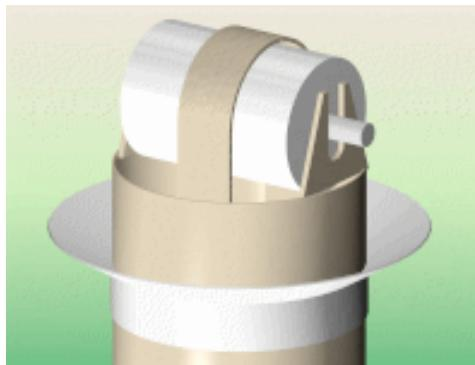
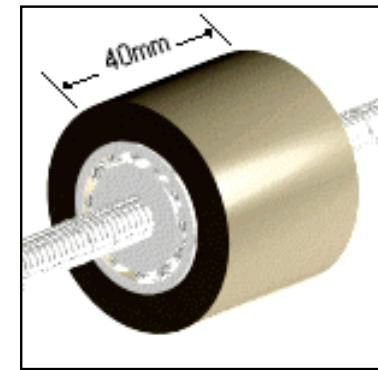

figure 13
figure 17
- **Simple direct shaft rollers,** (see figure 13 and 14)
If you chose the simple direct shaft rollers of figure 13 and 14 then you can make the rollers in a variety of ways. One way is to drill/lath a hole down the length of the nylon roller and push a longer length of steel rod firmly into the hole. Alternatively you could push a sized outer sleeve into the roller and fit a smaller threaded rod to have a more secure fixing method. (see figure 17 ) The roller choices are numerous. The advantages of making simple test rollers this way is
As a preference I like to keep my rollers to a diameter of around 40-50mm.(see figure 17 & 18) If you are just starting out you might like to do the same until you have mastered all the variables. I prefer not to have the top and bottom roller the same diameter. I believe this helps the voltage potential's. If the top roller is smaller than the bottom roller diameter then the top roller will be travelling at a greater rotation. I believe this greater rotational speed produces better friction on the belt which produces greater HV potential on the sphere condenser.